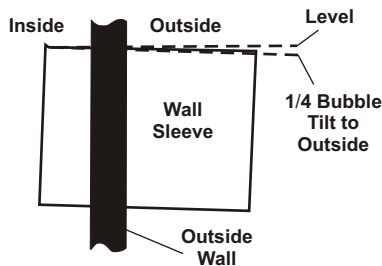

Fig 3 Proper Sleeve Tilt
- A slight downward pitch from the indoor side to the outdoor side as shown below (Fig 3).